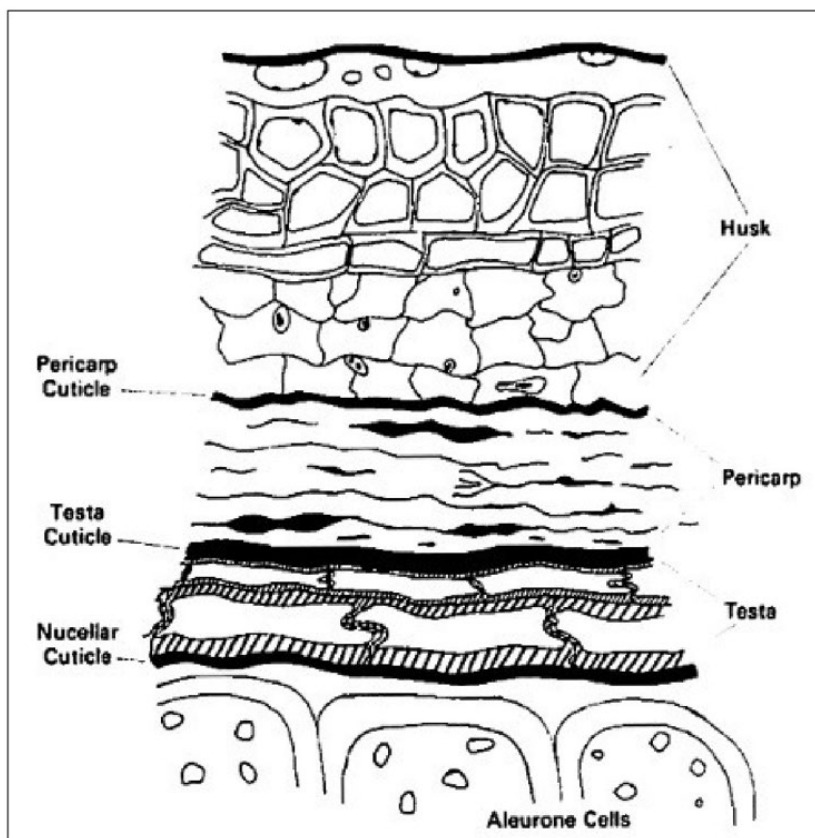

Figure 23 – Kernel outer layers
Figure 23, from a 1984 paper published by Heriot Watt University researchers Freeman and Palmer, (12) illustrates the cellular structures inside a grain kernel. The pericarp and testa cells comprise about 6% of the weight